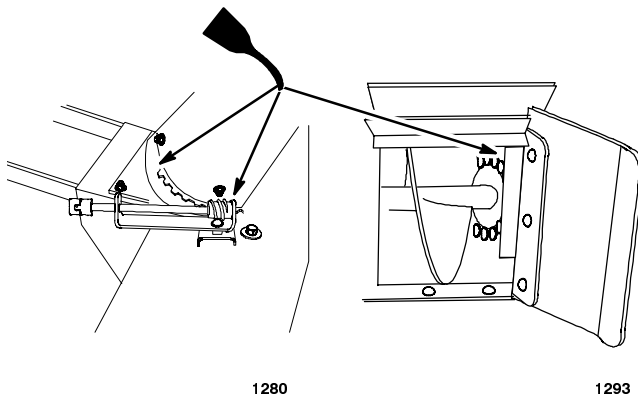

Figure 26
2. Coat the entire chain with oil and allow to penetrate each roller (Fig. 26).
3. Place a few drops of oil on discharge chute rotator shaft and discharge chute mounting (Fig. 26).